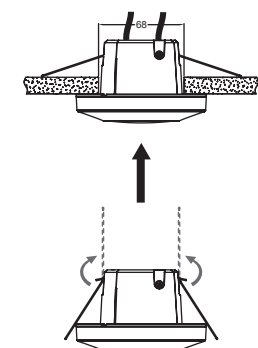

FIG. 10
3. Connect the wiring to the sensor and then screw the housing with clamping springs, by means of the two anti-fall screws, on the sensor housing (FIG. (9)).
4. Then place the sensor in the drilled hole in the ceiling (FIG. 10).